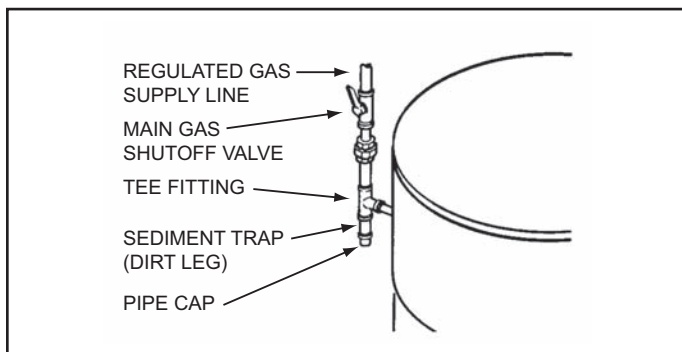

Figure 52
Ensure all gas pipe is clean on the inside before installation. To trap any dirt or foreign material in the gas supply line a sediment trap (dirt leg) must be installed as shown in Figure 52. The sediment trap must be readily accessible and not subject to freezing conditions. Install in accordance with the recommendations of the local gas utility company.
7. Install a sediment trap (dirt leg) as shown in Figure 52 on page 37.
8. Install a Main Gas Shutoff valve in the supply gas line as shown in Figure 52 on page 37.
1. For test pressures exceeding 1/2 psi (3.45 kPa) disconnect the water heater and its Main Gas Shutoff Valve from the gas supply piping system during testing, see Figure 52 on page 37. The gas supply line must be capped when disconnected from the water heater.